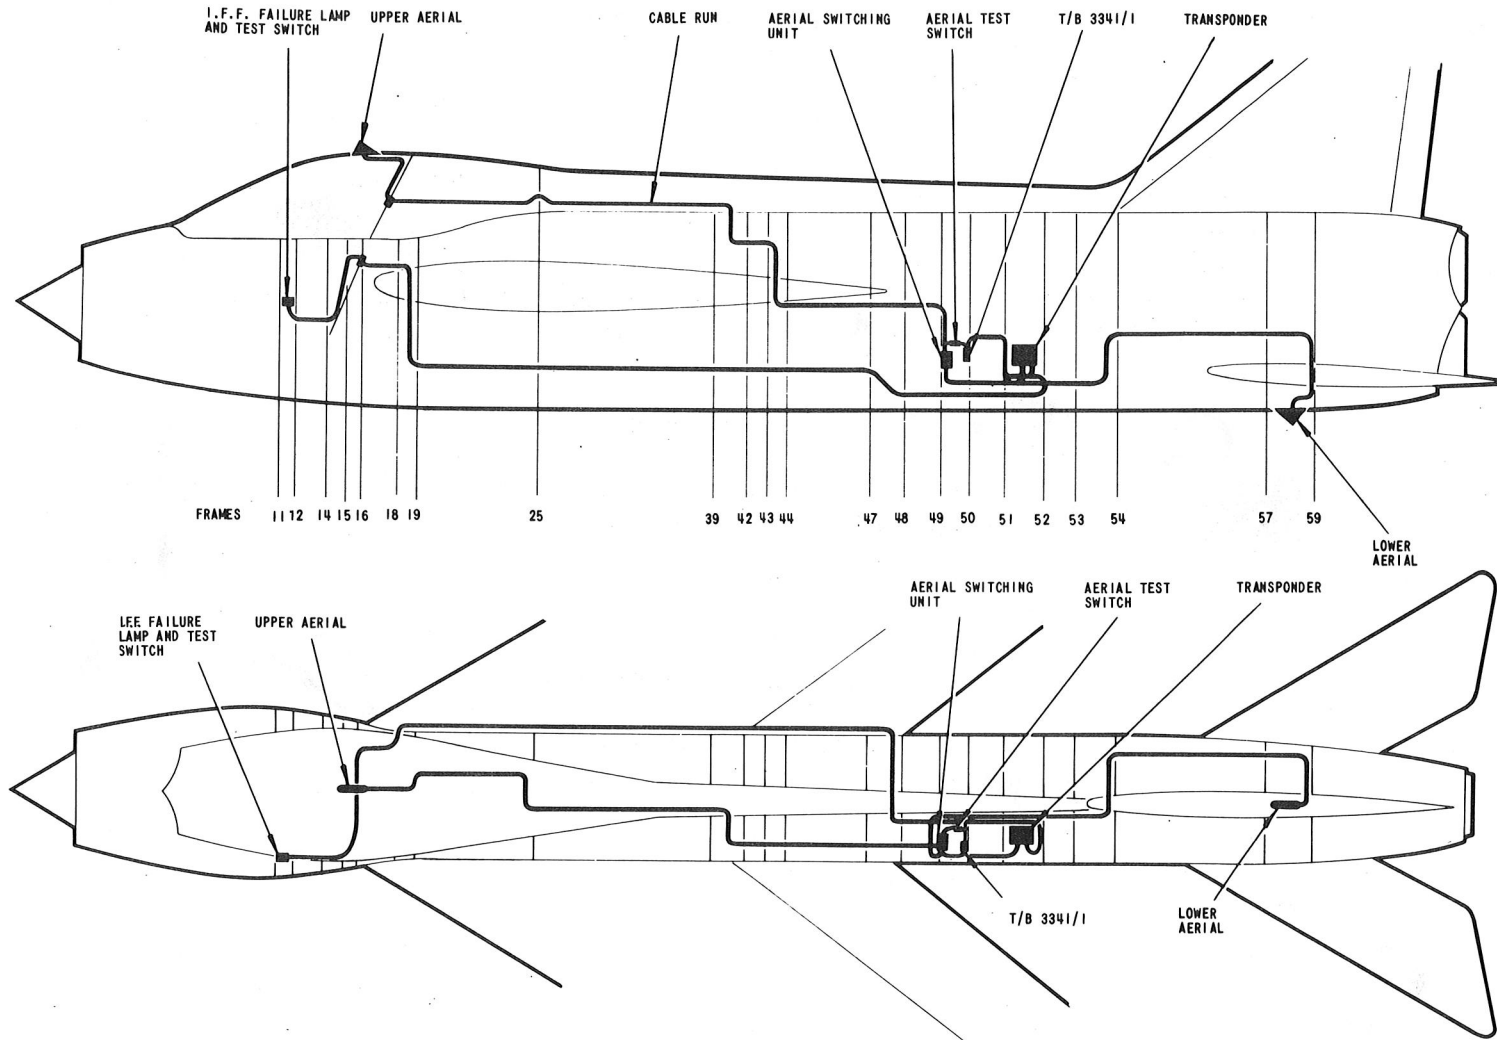
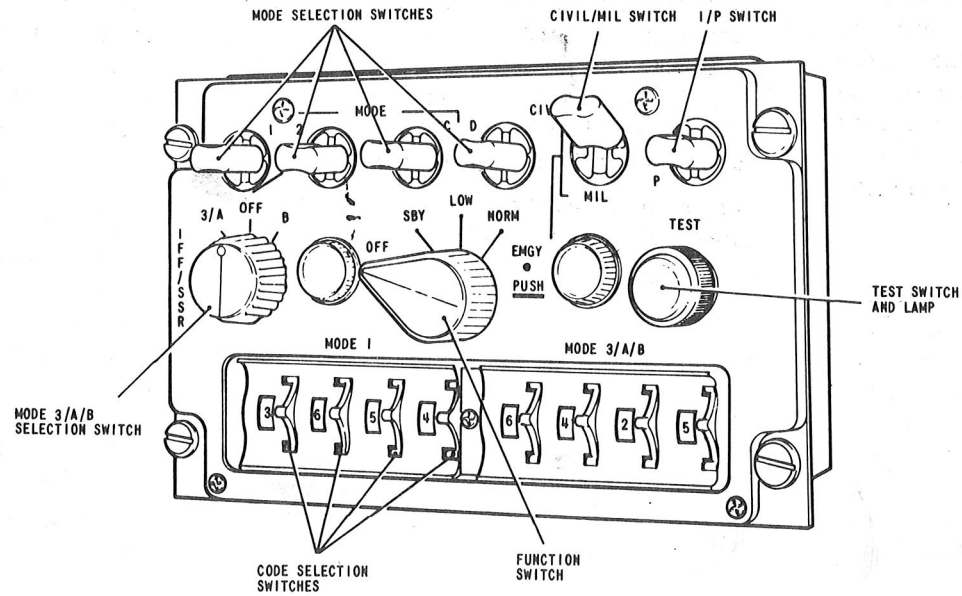

FIG. 1. I.F.F./S.S.R. 1520 INSTALLATION (A.R.I. 23134/3)
FIG.2. MAIN UNITS
2. Information on these units plus the complete functioning and operating data will be found in A.P.114J-0101-16. Fig. 1 shows the location of each unit in the aircraft and fig.3 shows the inter-connection detail. Location, access and the relevant Air Publication references can be found in Table 2. Illustrations of the main items can be found in fig.2.
secured as detailed in A.P.101B-1000-5A3A, Section 1, Chapter 1, S.P.4B, fig.2. Functional tests should be carried out at the prescribed intervals, if the serviceability of the installation is suspect, and after rectification of a defect. The instructions for setting up, servicing and testing of the installation, along with the test equipment required, can be found in A.P.114J-0101-16.